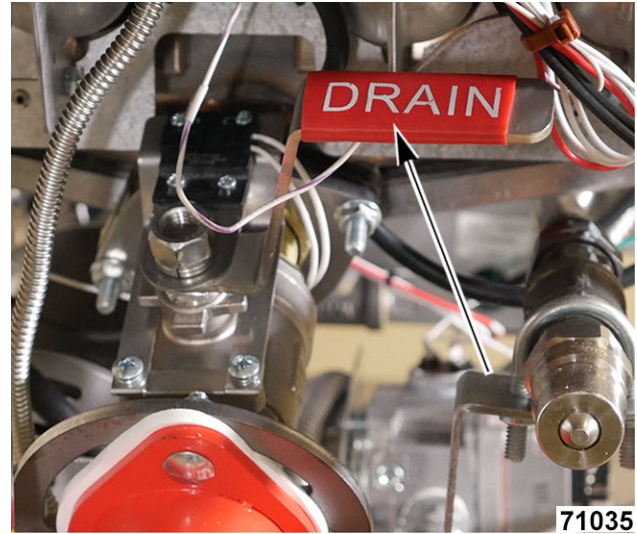

Fig. 86
9. Ensure drain valve is in closed position (Fig. 86).